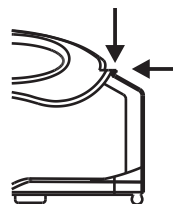

Fig. 11
- Close the battery compartment door. Lift up on the two tabs until they "click" into place, See Fig. 11.